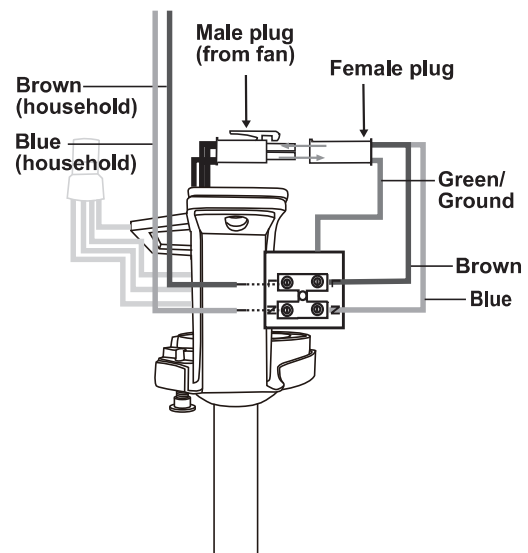

Figure 12
2. Be sure to snap together the male and female plugs. (Fig. 12)
3. Connect the blue, neutral household neutral wire to the terminal block “N” hole. Connect the brown, hot household neutral wire to the terminal block “L” hole. (Fig. 12 & 13)